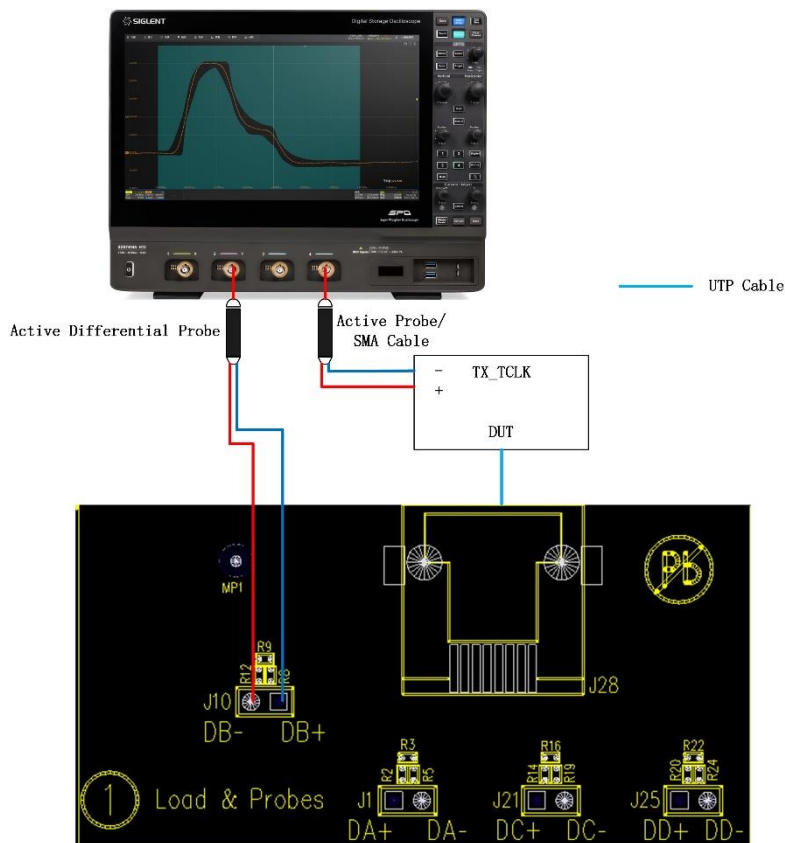

Figure 4-5 Connection diagram in the Connect menu
- **Connect:** This column displays the connection diagram of the compliance test, as shown in Figure 4-5. If more than one item is selected simultaneously, only the connection diagram for the first test item will be displayed. For the other test items, if the connection is different then a new pop-up window will appear at the end of the previous test.